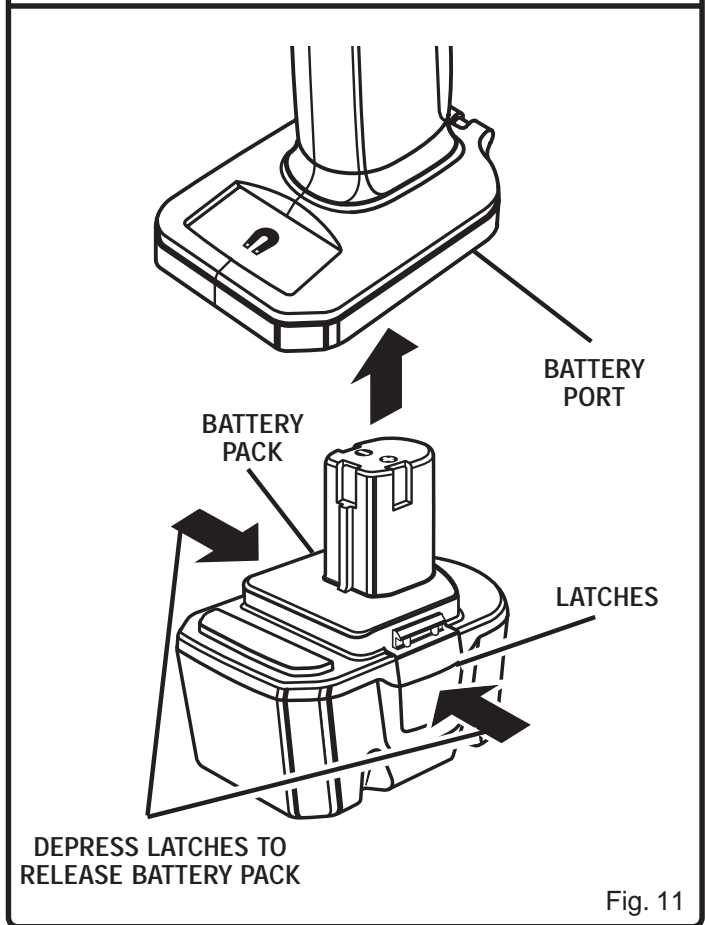

Fig. 11
- Place the battery pack in your drill. Align raised rib on battery pack with groove in drill's battery port. *See Figure 11.*
- Locate latches on side of battery pack and depress both sides to release battery pack from your drill. *See Figure 11.*